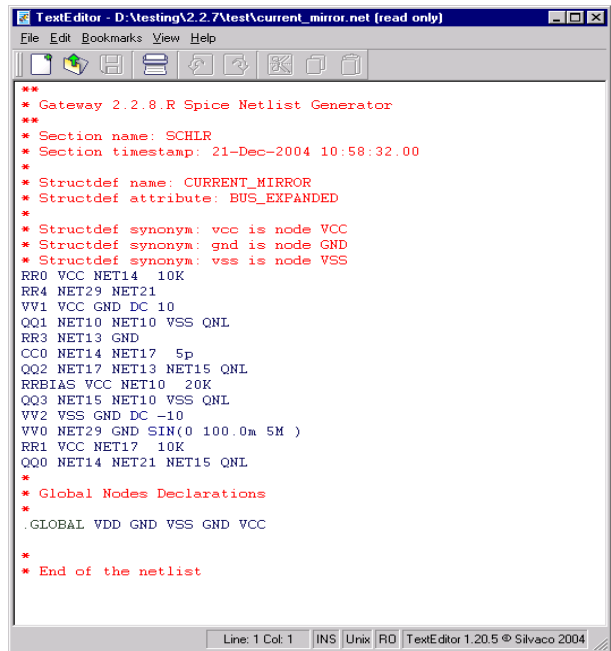

Figure 9. SPICE netlist generated from Gateway.
10. Create and View the netlist – see Figure 9